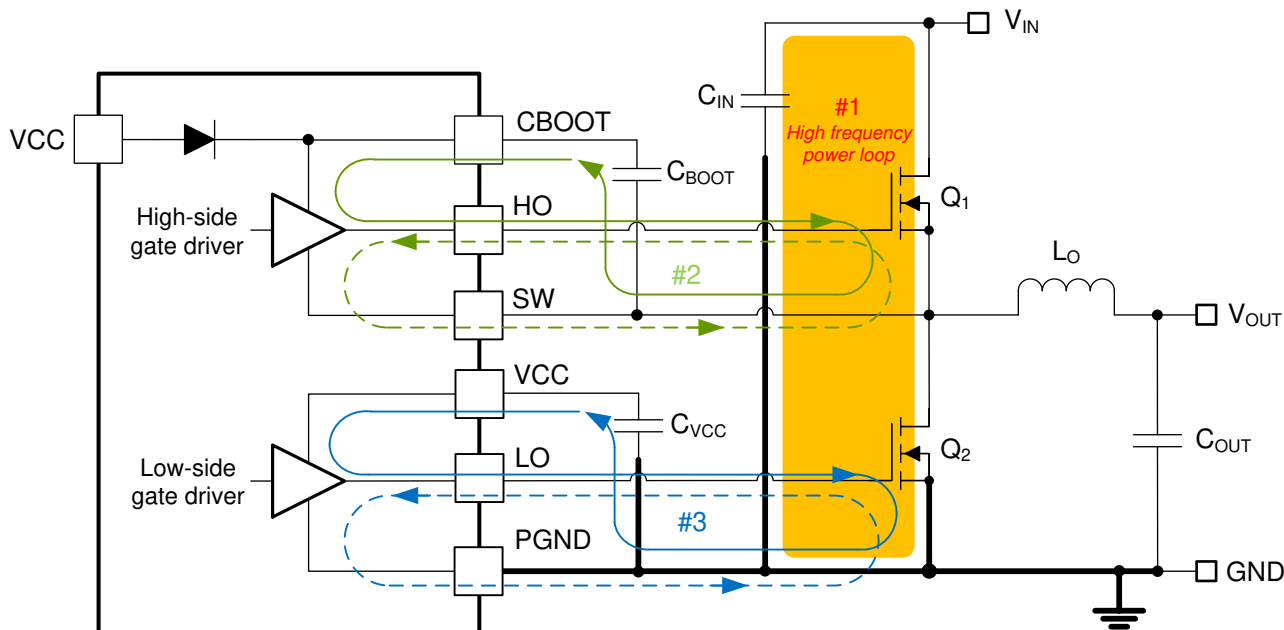

图 11-1. DC/DC Regulator Ground System With Power Stage and Gate Drive Circuit Switching Loops
Proper PCB design and layout is important in a high-current, fast-switching circuit (with high current and voltage slew rates) to achieve a robust and reliable design. As expected, certain issues must be considered before designing a PCB layout using the LM25149. The high-frequency power loop of a buck regulator power stage is denoted by loop 1 in the shaded area of 图 11-1. The topological architecture of a buck regulator means that particularly high di/dt current flows in the components of loop 1, and it becomes mandatory to reduce the parasitic inductance of this loop by minimizing its effective loop area. Also important are the gate drive loops of the high-side and low-side MOSFETs, denoted by 2 and 3, respectively, in 图 11-1.
- Loop 1: The most important loop area to minimize is the path from the input capacitor or capacitors through the high- and low-side MOSFETs, and back to the capacitor or capacitors through the ground connection. Connect the input capacitor or capacitors negative terminal close to the source of the low-side MOSFET (at ground). Similarly, connect the input capacitor or capacitors positive terminal close to the drain of the high-side MOSFET (at V_{IN}). Refer to loop 1 of 图 11-1.
5. The SW pin connects to the switch node of the power conversion stage and acts as the return path for the high-side gate driver. The parasitic inductance inherent to loop 1 in Figure 11-1 and the output capacitance (C_{OSS}) of both power MOSFETs form a resonant circuit that induces high frequency (greater than 50 MHz) ringing at the SW node. The voltage peak of this ringing, if not controlled, can be significantly higher than the input voltage. Make sure that the peak ringing amplitude does not exceed the absolute maximum rating limit for the SW pin. In many cases, a series resistor and capacitor snubber network connected from the SW node to GND damps the ringing and decreases the peak amplitude. Provide provisions for snubber network components in the PCB layout. If testing reveals that the ringing amplitude at the SW pin is excessive, then include snubber components as needed.
- Loop 2: high-side MOSFET, Q_1 . During the high-side MOSFET turnon, high current flows from the bootstrap (boot) capacitor through the gate driver and high-side MOSFET, and back to the negative terminal of the boot capacitor through the SW connection. Conversely, to turn off the high-side MOSFET, high current flows from the gate of the high-side MOSFET through the gate driver and SW, and back to the source of the high-side MOSFET through the SW trace. Refer to loop 2 of Figure 11-1.
- Loop 3: low-side MOSFET, Q_2 . During the low-side MOSFET turnon, high current flows from the VCC decoupling capacitor through the gate driver and low-side MOSFET, and back to the negative terminal of the capacitor through ground. Conversely, to turn off the low-side MOSFET, high current flows from the gate of the low-side MOSFET through the gate driver and GND, and back to the source of the low-side MOSFET through ground. Refer to loop 3 of Figure 11-1.